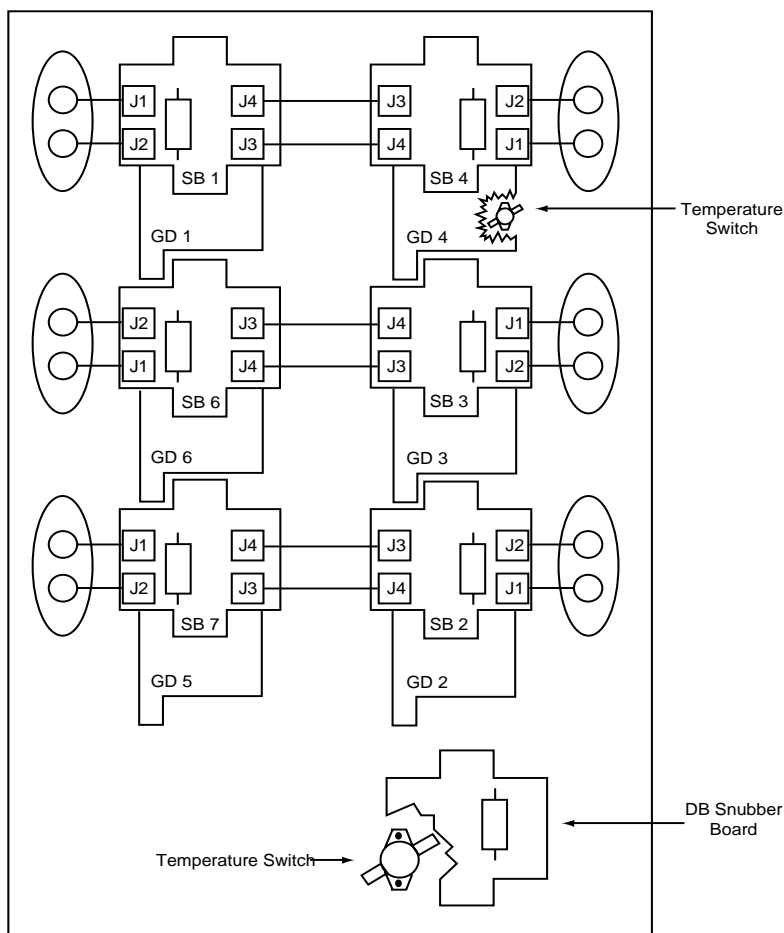

Figure 4.1.33: Temperature Switch Locations
ATV66C10N4 to C19N4 drive controllers have two identical temperature switches mounted on the heatsink, one under the upper right inverter gate driver board and the other under the DB snubber board (see Figure 4.1.33 on page 4.1.87). Kit number VZ3G003 contains one of those switches. ATV66C10N4 to C19N4 drive controllers also have a temperature switch mounted on the back side of the hinged assembly behind the power board. This temperature switch has a different rating than those mounted on the heatsink. It is contained in kit number VZ3G006.
To replace the temperature switch located on the heatsink behind the DB snubber board (see Figure 4.1.33 on page 4.1.87):
3. Carefully remove the P2 connector from the GD2 gate driver board (see Figure 4.1.33). This allows access to the mounting screws on the temperature switch.
To replace the temperature switch located on the heatsink behind the upper right gate driver board (see Figure 4.1.33):